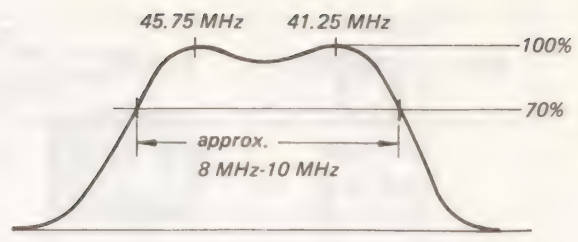

Fig. 5-14. UHF-IF response curve
7. Adjust two coils LB1 and LC1 to produce the waveform shown in Fig. 5-14.